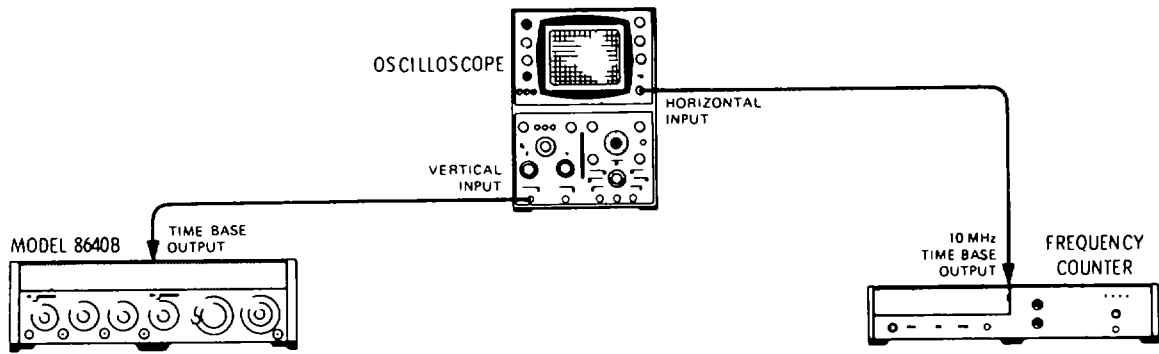

Figure 5-10. Internal Reference Frequency Adjustment Test Setup
- 2. Connect equipment as shown in Figure 5-10 after setting Signal Generator's controls as follows: